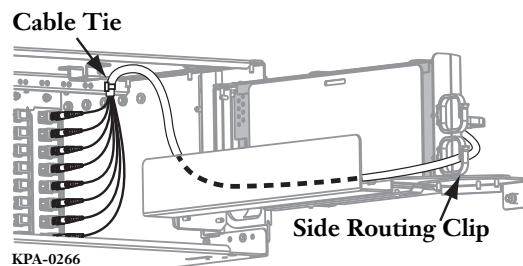

Figure 5 — Route Pigtail to Back of Shelf
- Step 2:** Use cable ties to loosely secure the pigtail fibers to the top interior of the housing (Figure 5). Do not tighten cable ties.